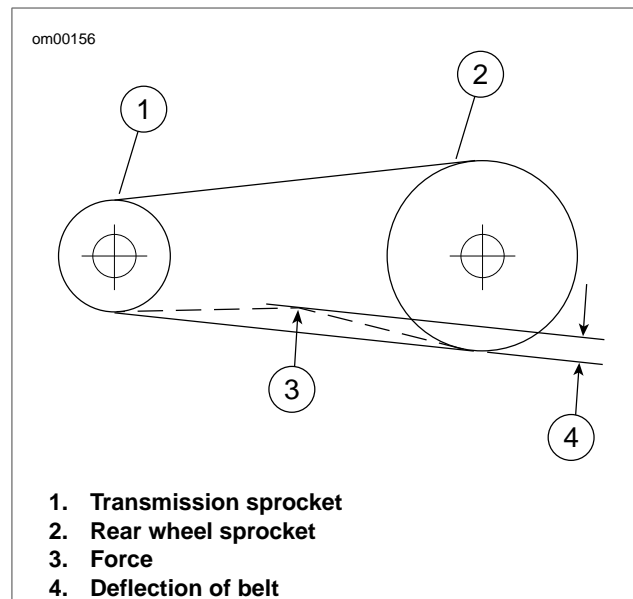
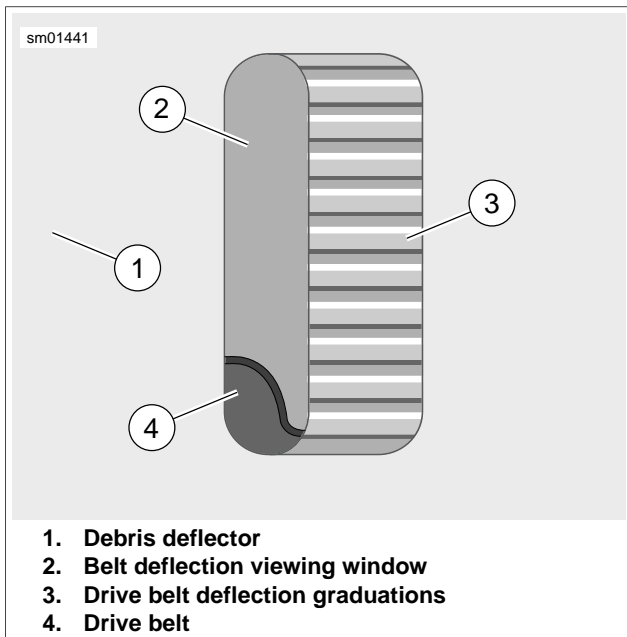

Figure 1-26. Check Belt Deflection
Figure 1-27. Belt Deflection Window
- a. Slide O-ring (4) toward 0 lbs (0 kg) mark (3).
- b. Fit belt cradle (2) against bottom of drive belt half-way between drive pulleys (point 3 in Figure 1-26.)
- c. Press upward on knob (6) until O-ring slides down to 10 lbs (4.5 kg) mark (5).
- d. See Figure 1-27. Measure belt deflection as viewed through deflection viewing window (2) while holding gauge steady. Deflection graduations (3) are 1/8 in. (3.2 mm) apart.
3. See Figure 1-26. Check drive belt deflection. Apply 10 lbs (4.5 kg) of force upward at point 3.